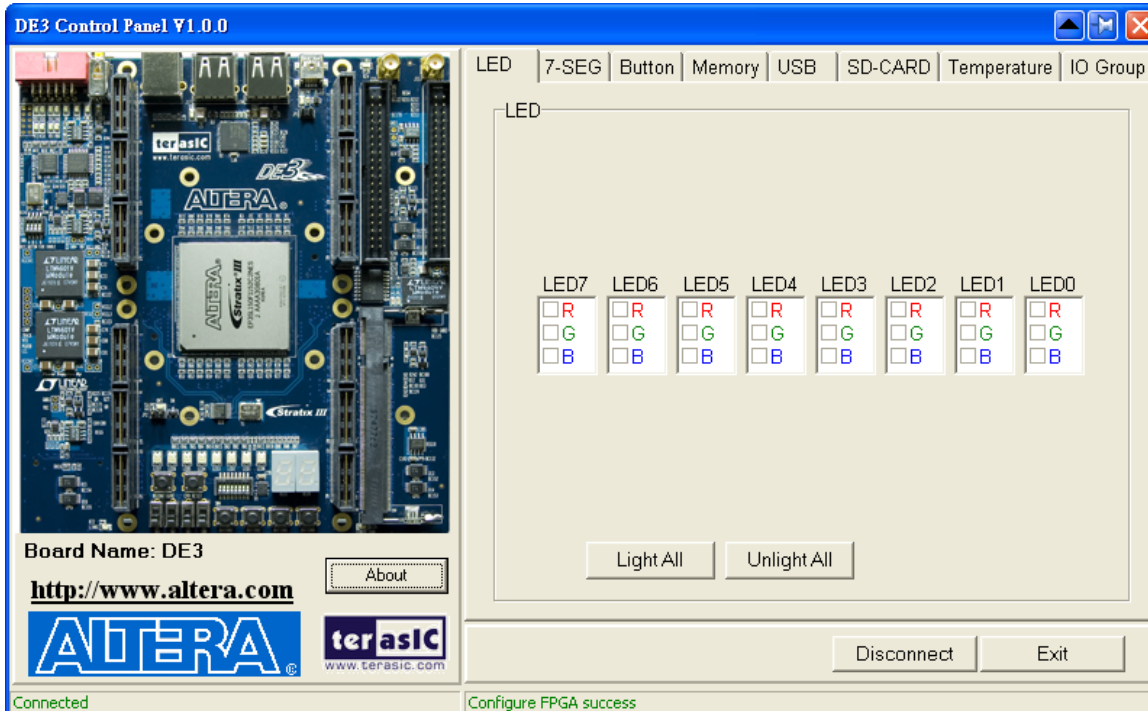

Figure 3.3. DE3 Control Panel is ready
6. The Control Panel is now ready, as shown in Figure 3.3